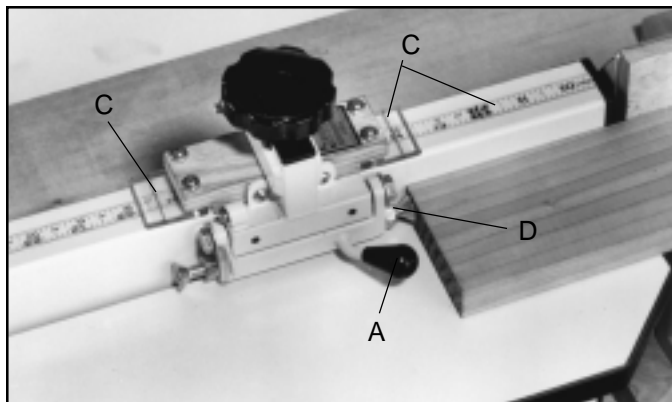
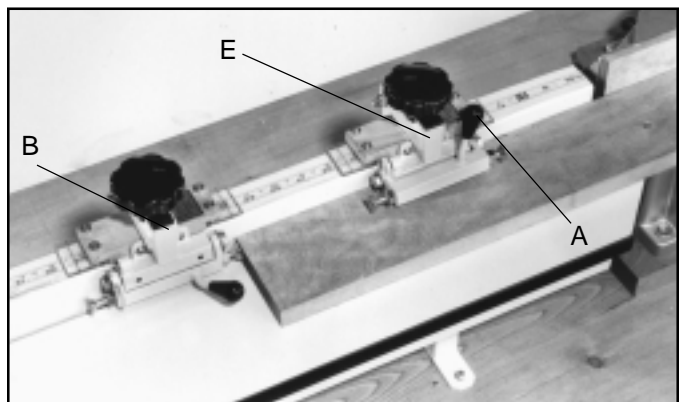

Fig. 15
Fig. 16
The 78-992 Dual Pointer Flip-Stop is used mainly when making repetitive cutting operations, as shown in Fig. 15, and then flipped up out of the way with lever (A) when not in use. For more convenience, the Flip-Stop can be used with two or more stops as shown at (B) and (E) Fig. 16, and positioned as close as 4-1/2 inches apart anywhere along the fence for making multiple, often used repetitive cuts without having to remeasure. Fig. 16 illustrates lever (A) flipped up out of the way and stop (B) used to position the workpiece. An adjustable stop screw (D) Fig. 15, positively limits the workpiece, as shown, and should be adjusted to the scale and cursor (C). The cursor (C) Fig. 15, is supplied on each side of the stop, enabling you to use the stop on either side of the saw blade.